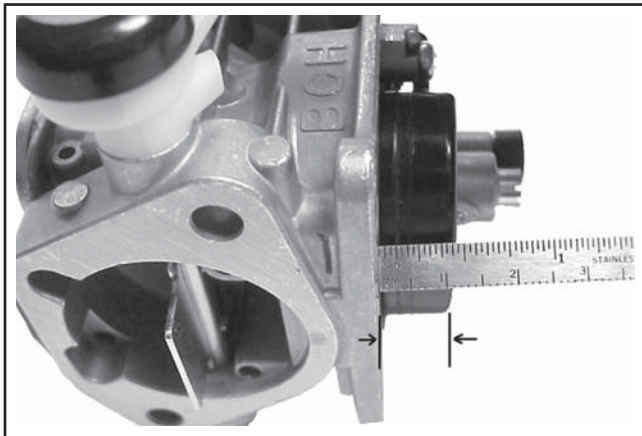

Figure 5-13. Checking Float Height.
7. The correct float height adjustment is **12.0 mm (0.472 in.)** measured from the float bottom to the body of the carburetor. See Figure 5-13. Adjust the float height by carefully bending the metal tang of the float.